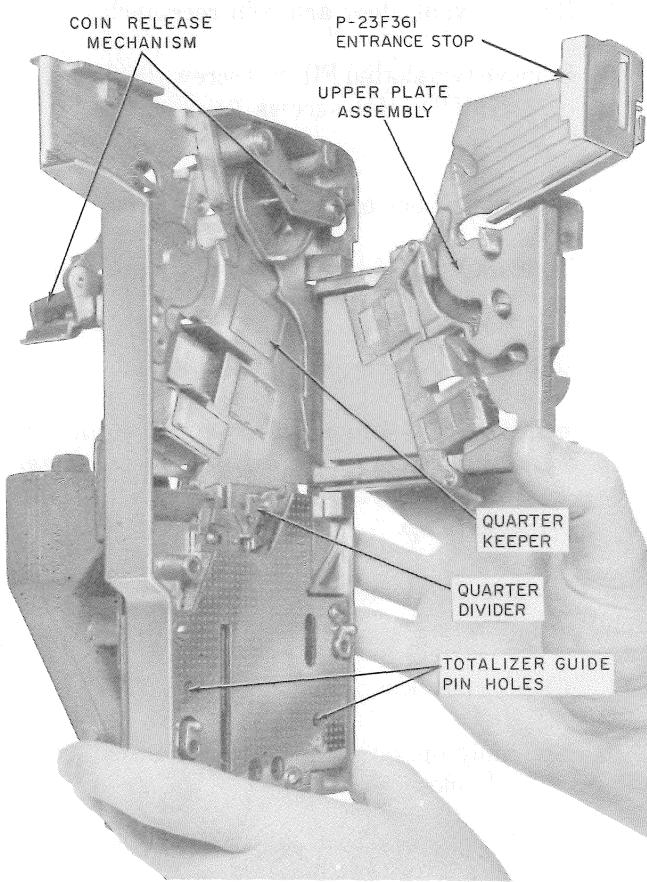

Fig. 42—Chute
- (1) Remove cover unit assembly (1-type) or open door and faceplate assembly (2-type).
- (2) Remove chute-totalizer.
- (3) Swing upper plate assembly open (Fig. 42).
- (4) Where possible, use an orange stick to remove any foreign objects or stuck coins. Do not use screwdriver. Do not loosen chute assembly screw.
- (5) Clean off any foreign material adhering to chute magnets.